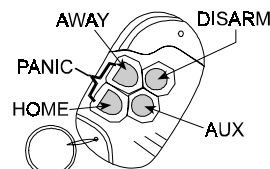

Figure 22. MCT-234
A. MCT-234 (Fig 22): ‘Keyfob’ transmitter - one unit is supplied with the PowerArt. You can program the AUX (auxiliary) button to perform various tasks, in accordance with the user’s needs.